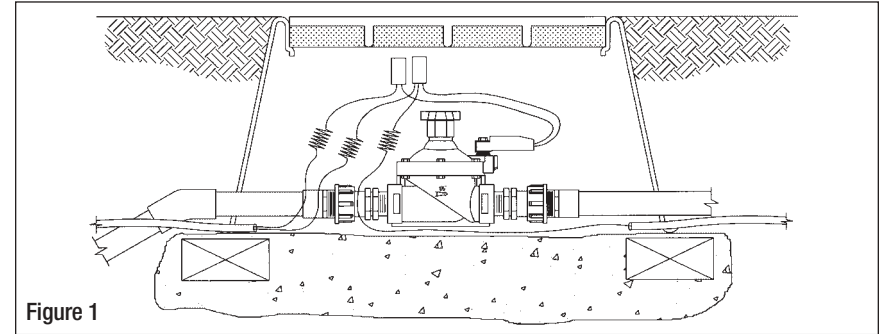

Figure 1
Recommended version is option A, a complete valve assembly including LEMA solenoid actuator with plastic in-line valve (globe), sizes from 3/4" to 2", see Figure 1.
- 6.2 Install series 150S-xxx valves with the actuator according to the valve standard installation specification (See figure 1 and for more detail, see page 12).
- 6.3 Splice the solenoid actuator wires and connect the incoming direct burial color code wire to the red wire from the solenoid actuator using dry-splice waterproof connector. Loop the incoming white common wire to the white wire from the solenoid actuator using conventional dry-splice waterproof wire connectors. Leave the wires slightly loose on each side so that repairs, if needed, can be carried out easily. See Figure 1 on and detail on page 12.